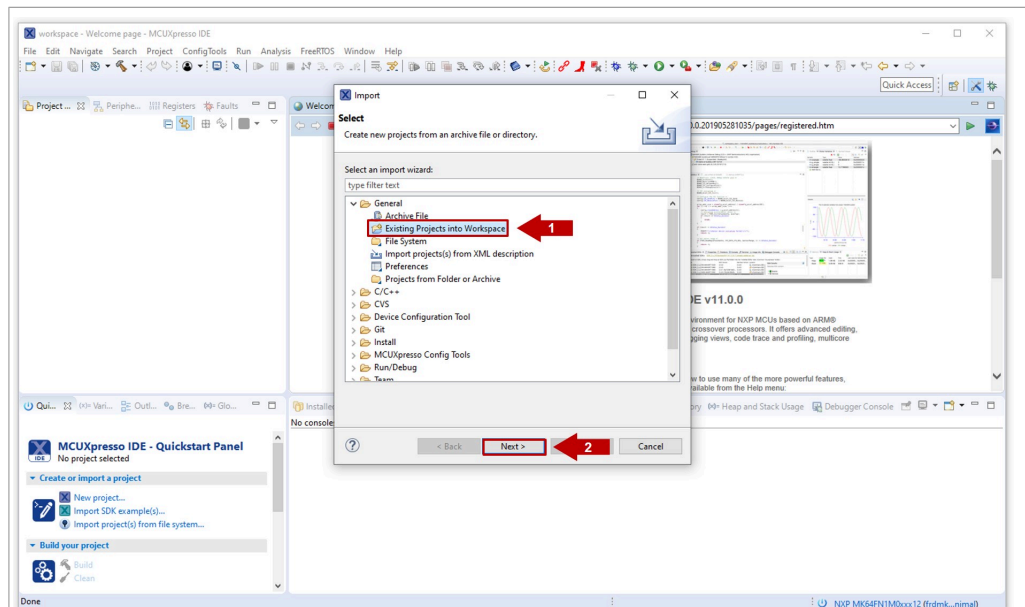

Figure 33. Import a project wizard (II)
2. In the import wizard menu, select import **"Existing Projects into Workspace"** from the *General* folder as shown in Figure 33: